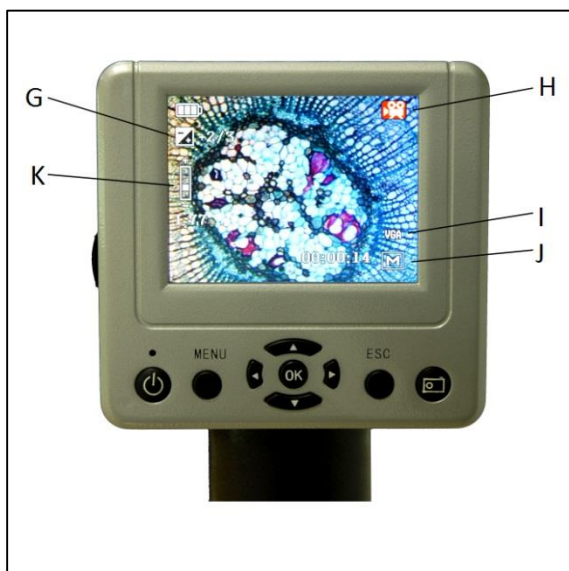

Figure 8. LCD monitor – DV record mode
11.3. DV Record. 1. The symbol on the top right of the LCD screen (Figure 8-H) means you are in the DV record mode.
2. On the top left of the LCD screen (Figure 8-G) there is the EV (Exposure Value), which adjusts the brightness level. The normal position is 0.0, but it can be adjusted in increments up to -2 to +2 by pushing the left/right directional keys.
3. On the left in the middle (Figure 8-K) there is the digital zoom feature. Use the directional keys (up/down) to zoom in and out; maximum at 4x.
4. The DV Record can save in VGA or QVGA MP4 movie record (Figure 8-I).
5. On the bottom's right side of the screen (Figure 8-J) there is a number of estimated remaining snapshot images left in the internal memory or SD card.